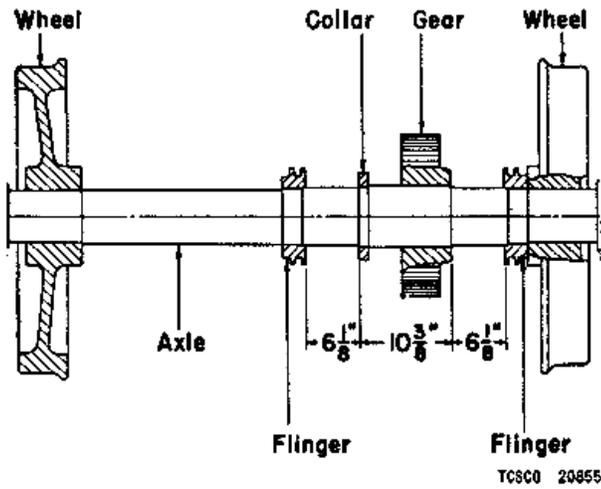

Figure 44. Wheels, axle and flingers, sectional view.
- (1) Place flingers in an oil bath and heat to 150° C.
- (2) Remove flingers from oil bath and quickly slide them into place on the flinger seats of the axle, with the larger diameter flat side adjacent to the motor bearing seat.
- (3) The distance from the flinger to the journal face of the thrust collar or to the journal face of the gear hub must be 6¹/₈ inches (fig. 44).
- (4) It is suggested that gage blocks 6¹/₈ inches long be used for spacing the flingers.